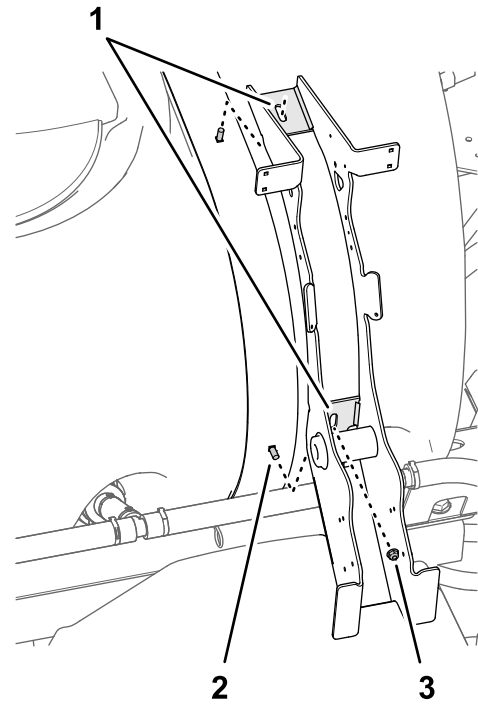

Figure 13
3. Loosely assemble the flange locknut (5/16 inch) onto the lower carriage bolt (Figure 13).
2. Align the slots in the eductor mount to the 2 lower carriage bolts of the rear tank strap as shown in Figure 13.